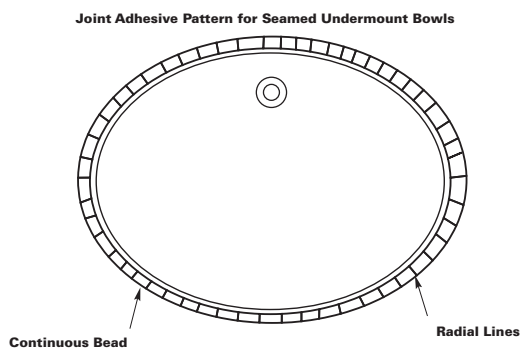

Figure B-2
8. Apply DuPont™ Joint Adhesive or Corian® Joint Adhesive to the sink flange as shown in Figure B-2.